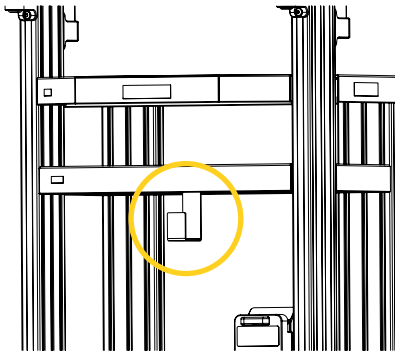

Figure 5 : Location of the cable management hook
1. If required, unplug the UPS power cable from the outlet, wind the cord and hang it on the cable management hook (Figure 5), located on the THS Neonatal Cart UPS protector/shelf.